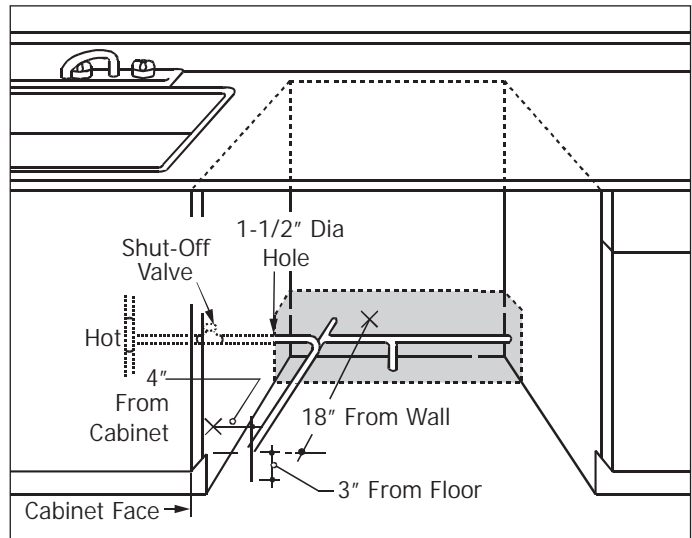

Figure 2-6.
1. The line may enter from either side, rear or floor within the shaded area shown in Figure 2-6.
3. Water connection is on the left side of dishwasher. Install the hot water inlet line, using no less than 3/8" O.D. copper tubing. Route the line as shown in Figure 2-6 and extend forward at least 18" from rear wall.